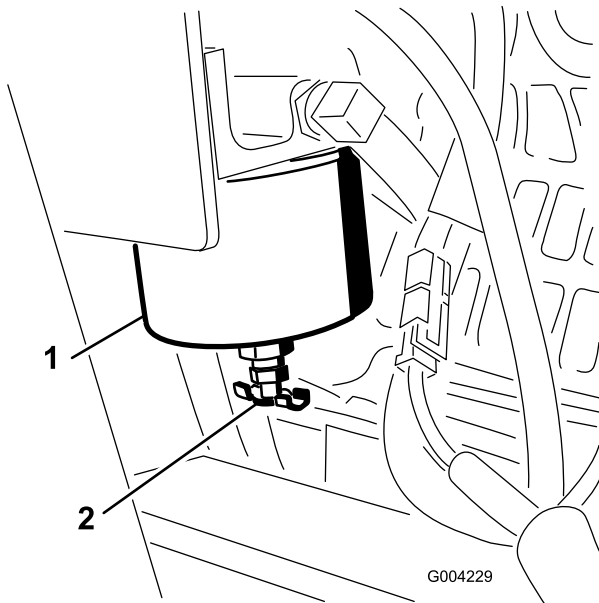

Figure 36
1. Locate the fuel filter on the right side of the engine (Figure 36) and place a clean container under it.
1. Clean the area where the filter canister mounts (Figure 36).
2. Remove the filter canister and clean the mounting surface (Figure 36).
4. Install the filter canister by hand until the gasket contacts the mounting surface, then rotate it an additional 1/2 turn (Figure 36).